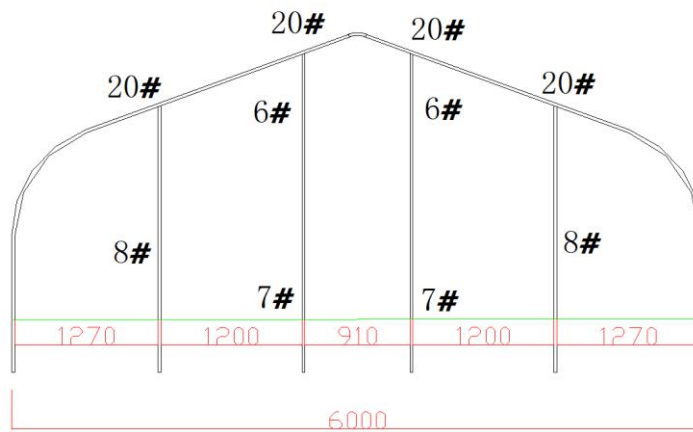

Figure 9
c. Install the Upper vertical tube and Lower vertical tube (No. 6 & 7) according to the width of the Door (No. 15). Fix the Door onto the Door clamp (No. 15-1), as shown in Figure 9 & 10.